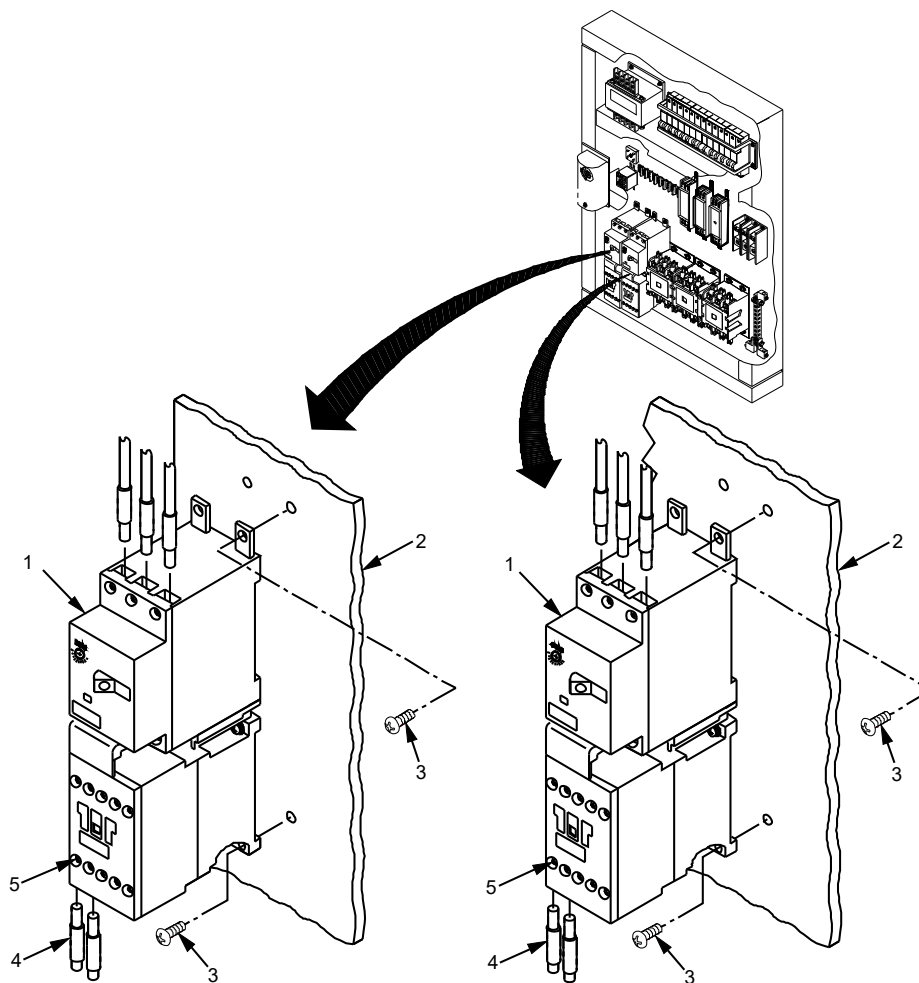

Figure 1. CMSP/EMSP Replace.
4. Verify that all electrical wires (Figure 1, Item 4) connected to the CMSP/EMSP being replaced are properly identified.
5. Loosen but do not remove terminal screws (Figure 1, Item 5) securing electrical wires (Figure 1, Item 4) to CMSP/EMSP (Figure 1, Item 1). Remove electrical wires (Figure 1, Item 4) from CMSP/EMSP (Figure 1, Item 1).
6. Remove and retain four screws (Figure 1, Item 3) that secure CMSP/EMSP (Figure 1, Item 1) to control panel (Figure 1, Item 2) remove CMSP/EMSP (Figure 1, Item 1).
1. Install CMSP/EMSP (Figure 1, Item 1) onto control panel (Figure 1, Item 2) and secure using four screws (Figure 1, Item 3).
2. Inspect all electrical wires (Figure 1, Item 4) being connected. Ensure no physical damage is present. If necessary, repair or replace.
3. Loosen but do not remove terminal screws (Figure 1, Item 5) on CMSP/EMSP (Figure 1, Item 1). Install all electrical wires (Figure 1, Item 4) and tighten terminal screws (Figure 1, Item 5).